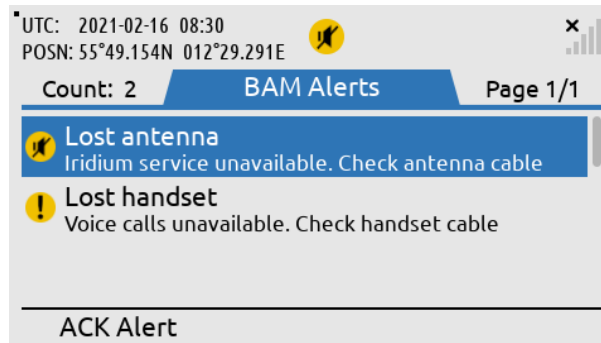

Figure 127: LT-3100 Control Unit (BAM Alerts)
**NOTE:** Active unacknowledged alerts cause a short but periodically repeated audible signal, which can be temporary silences (30 s) by pressing the soft key ‘Silence All’. This temporary silence has been illustrated in Figure 127.